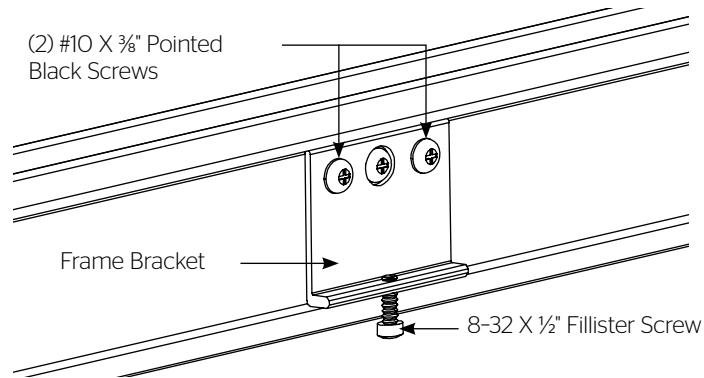

Figure 6 – Screens Under 104" in Viewing Width
- a. For screens under 104" wide viewable, attach (1) frame bracket to the bottom of the screen with (2) #10 x $\frac{3}{8}$ " pointed BLACK screws (Figure 6).
5. Insert 8-32 x $\frac{1}{2}$ " zinc plated fillister screw into frame bracket(s) (Figure 6 or 7). Rotate four or five turns only.